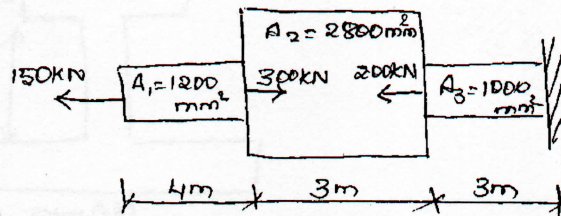

Fig.Q1(b)
b. Evaluate the deformation of the bar, given,  $E_1 = E_2 = E_3 = 200\text{GPa}$ , refer Fig.Q1(b). (10 Marks)